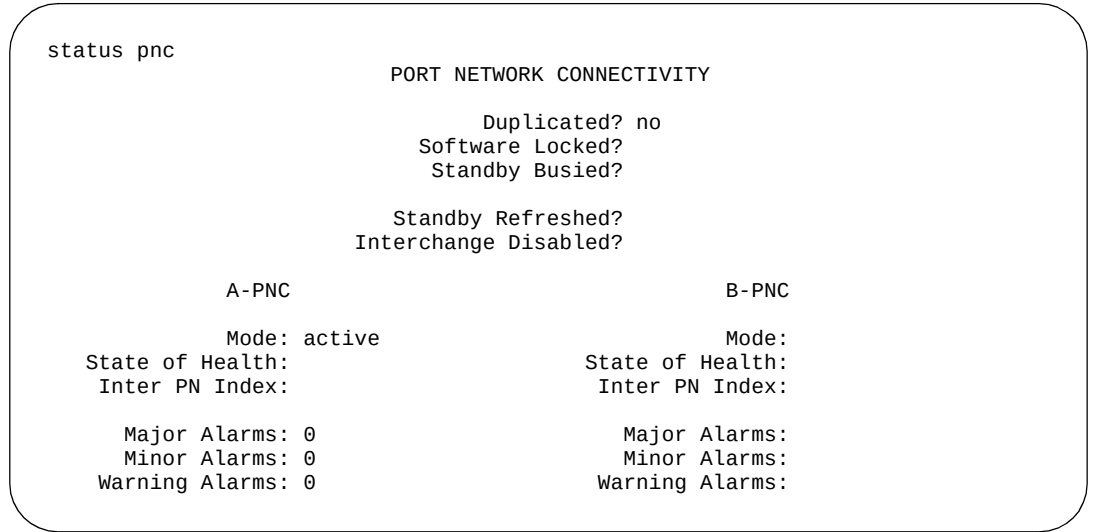

Figure 1-34. Screen output for status pnc command
2. Enter **status pnc** at the DEFINITY SAT. This display tells you which TN230X board is active in a duplicated system and how many alarms (if any) of each severity level have been logged for the board. Figure 1-34 shows the output from this command.